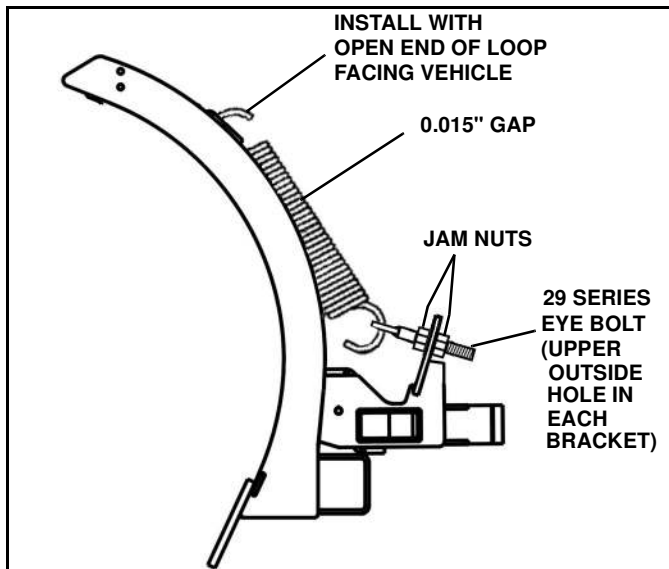
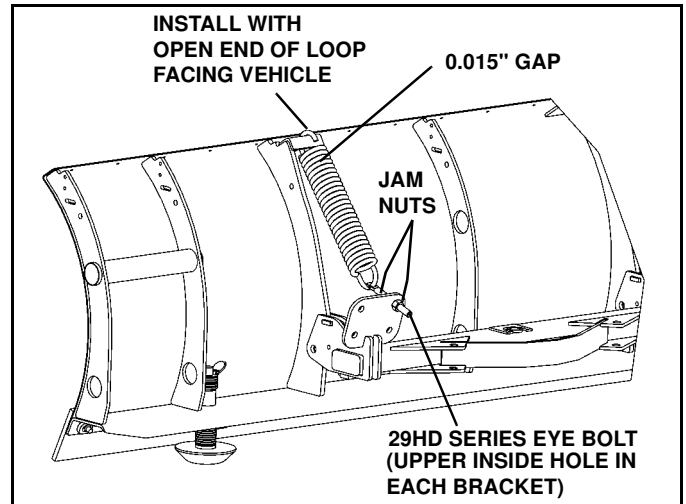
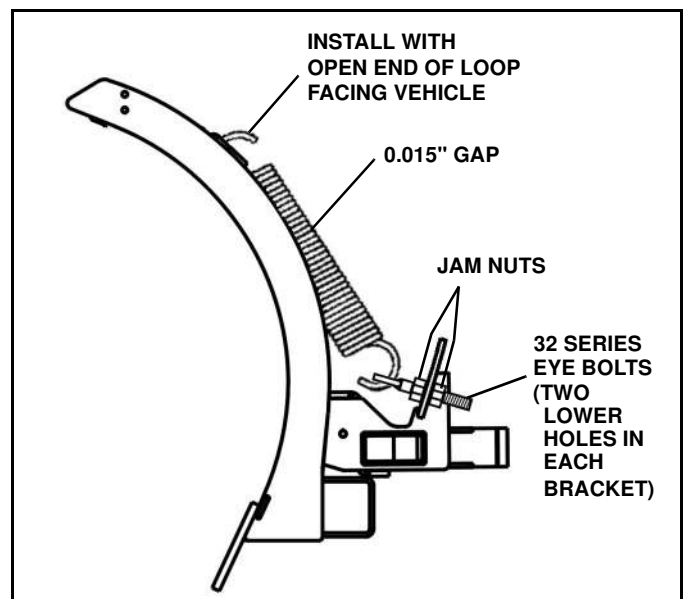

Figure 1-7a (29 Series)
Figure 1-7b (29 HD and 29R Series)
Figure 1-7c (32 Series)
7. Hook springs onto blade with open end of loop facing up. (See Figure 1-7a, Figure 1-7b and Figure 1-7c)
8a. **29 SERIES BLADES:** Hook other end of spring onto eyebolt. Insert one eyebolt on each side of the blade into the single upper hole on the swing frame spring bracket. Use a jam nut on either side of bracket to secure. (See Figure 1-7a and Figure 1-7b)
8b. **32 SERIES BLADE ONLY:** Hook other end of spring onto eyebolt. Insert two eyebolts on each side of the blade into the two lower holes on the swing frame spring bracket. Use a jam nut on either side of bracket to secure. (See Figure 1-7c)